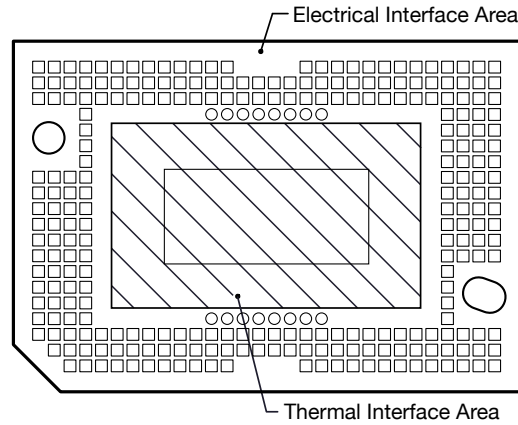

図 5-7. System Mounting Interface Loads
(1) Uniformly distributed within area shown in 図 5-7